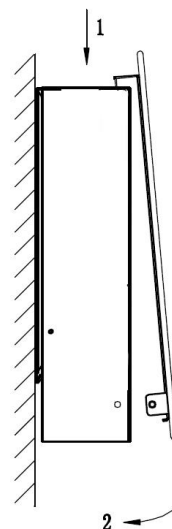

Figure 6
Step 6: Fit the appliance front fascia as shown below. (Figure 6)